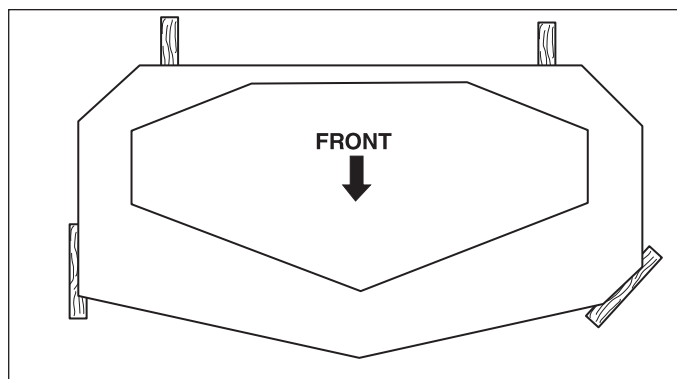

Figure 17. 2 x 4 Locations
3. Place the 2 x 4 blocks under each corner of the mower deck with the 3-1/2" sides being vertical. Place a 1/4" (0,64cm) thick spacer on top of the rear 2 x 4's. See Figure 17.